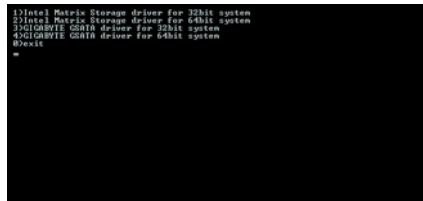
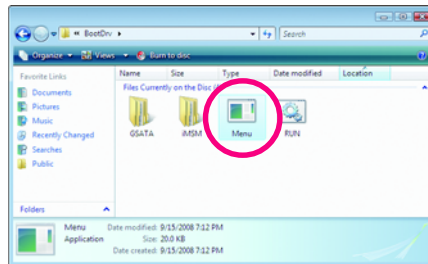

Figure 2
Figure 3
Step 2: When the controller menu (Figure 2) appears, remove the startup disk and insert the blank formatted disk. Select the controller driver by pressing the corresponding letter from the menu and press <Enter>. For example, from the menu in Figure 2, select **1)Intel Matrix Storage driver for 32bit system** for Windows 32-bit operating system or **2)Intel Matrix Storage driver for 64bit system** for Windows 64-bit. Your system will then automatically zip and transfer this driver file to the floppy disk. Press any key to exit when finished.
Use an alternative system and insert the motherboard driver disk. From your optical drive folder, double click the **MENU.exe** file in the **BootDrv** folder (Figure 3). A command prompt window will open similar to that in Figure 2.